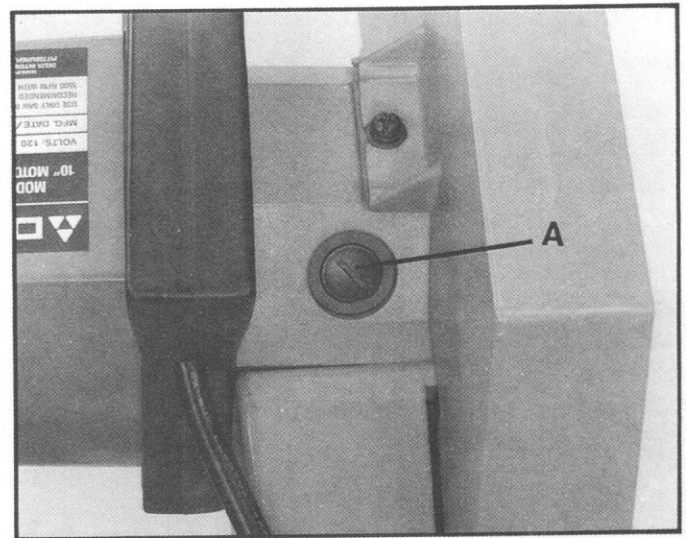
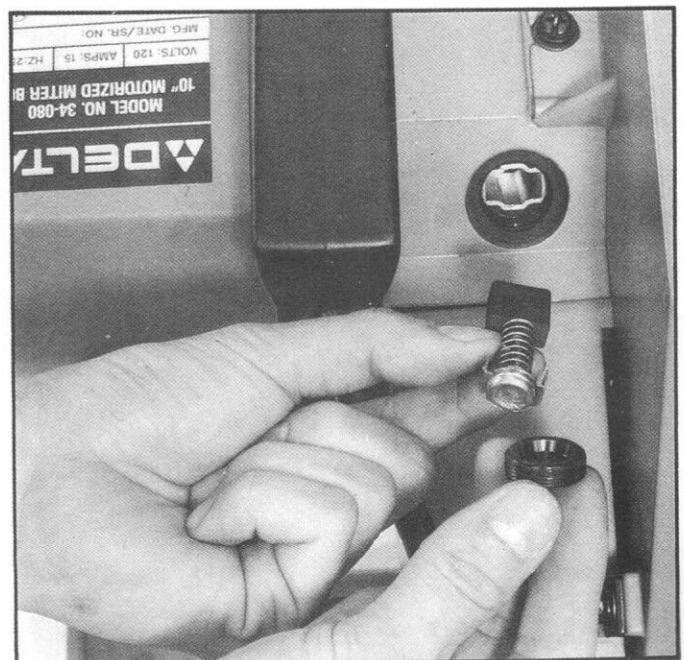

Fig. 37
Fig. 38
The brush holders (A) Fig. 37, are located on the motor housing opposite each other. Fig. 38, illustrates one of the brushes removed for inspection. When the carbon on either brush is worn to $\frac{3}{16}$ " in length or if either spring or shunt wire is burned or damaged in any way, replace both brushes. If the brushes are found serviceable after removing, reinstall them in the same position as removed.